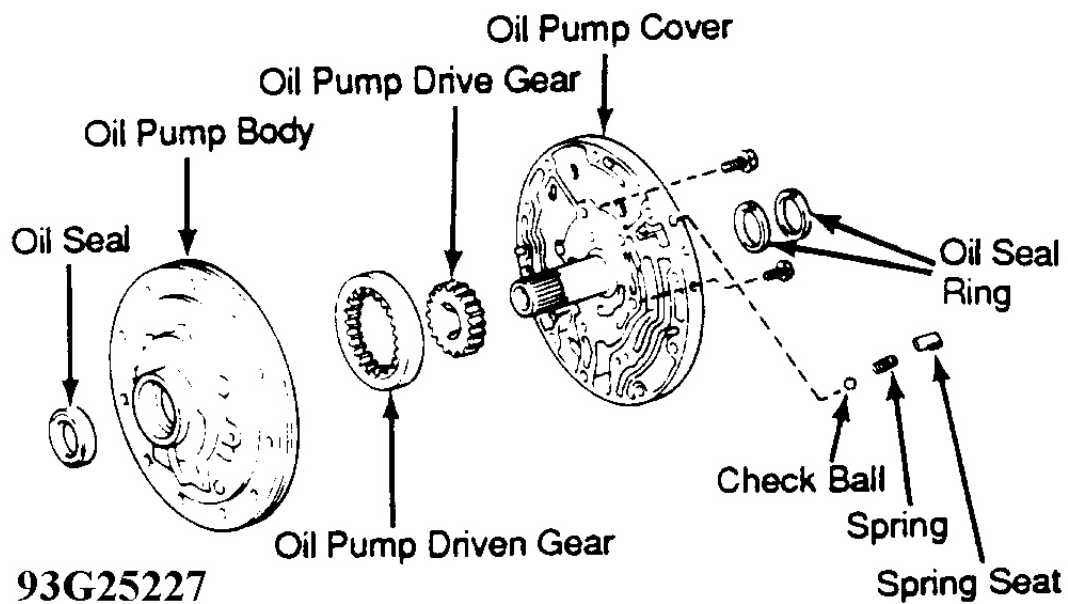

Fig. 14: Exploded View Of Oil Pump
2. Using Spring Compressor (09350-06100), compress spring and remove spring seat. See **Fig. 14** . Remove spring and check ball.